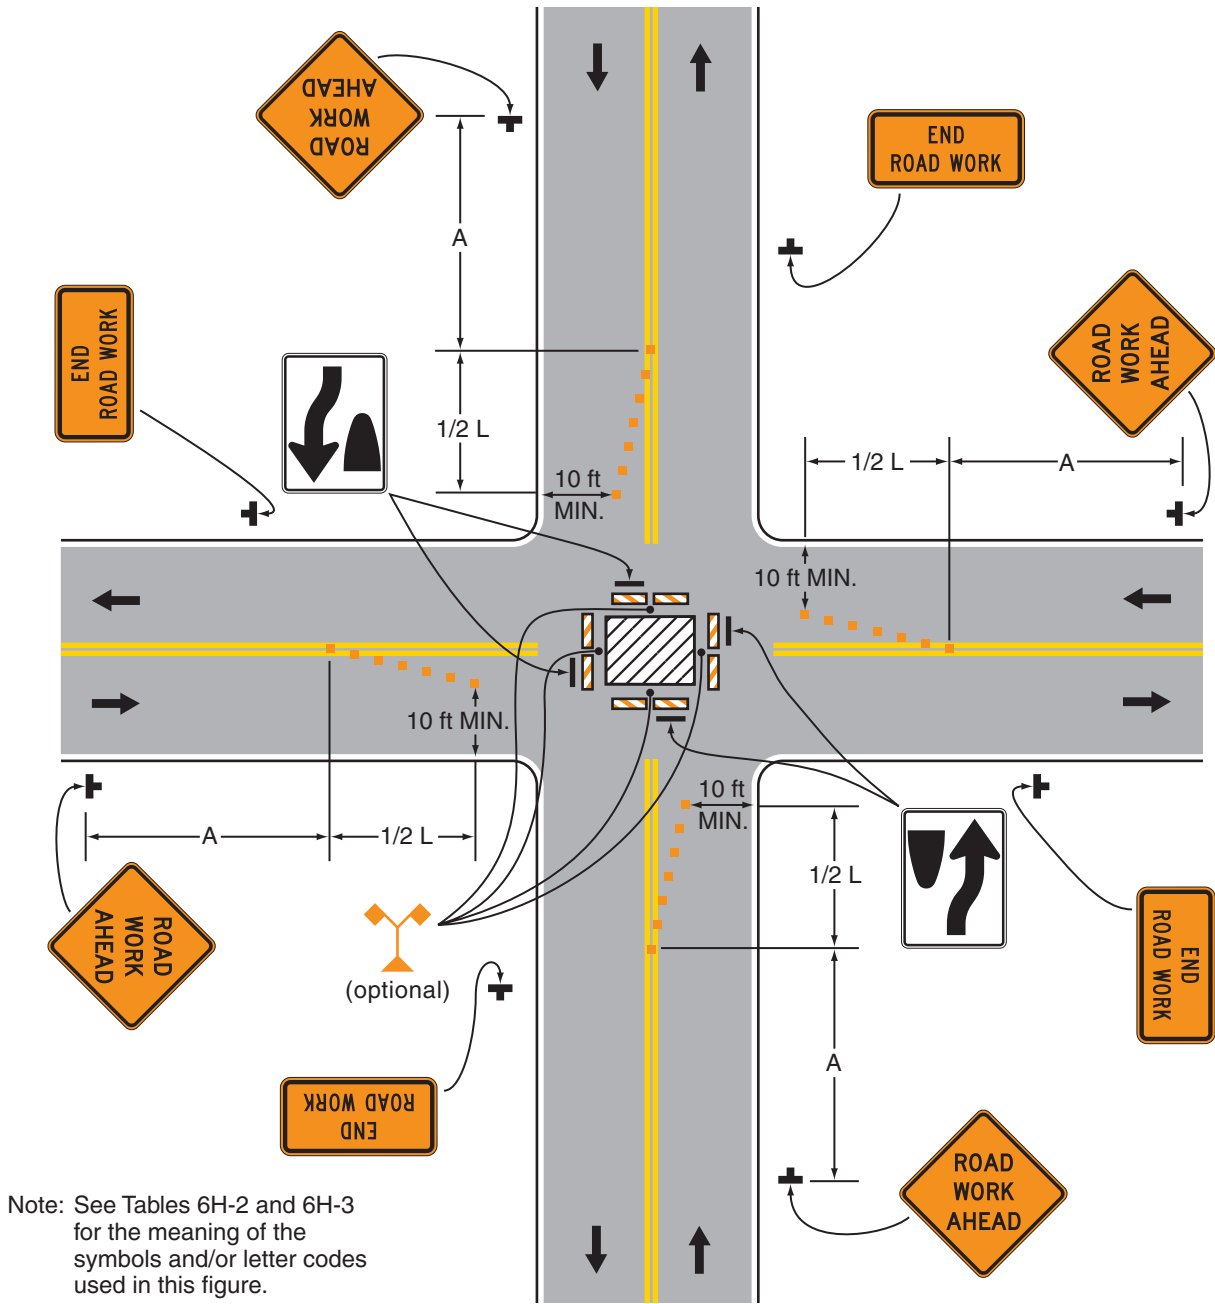

Figure 6H-26. Closure in the Center of an Intersection (TA-26)
** The column headings A, B, and C are the dimensions shown in Figures 6H-1 through 6H-46. The A dimension is the distance from the transition or point of restriction to the first sign. The B dimension is the distance between the first and second signs. The C dimension is the distance between the second and third signs. (The "first sign" is the sign in a three-sign series that is closest to the TTC zone. The "third sign" is the sign that is furthest upstream from the TTC zone.)